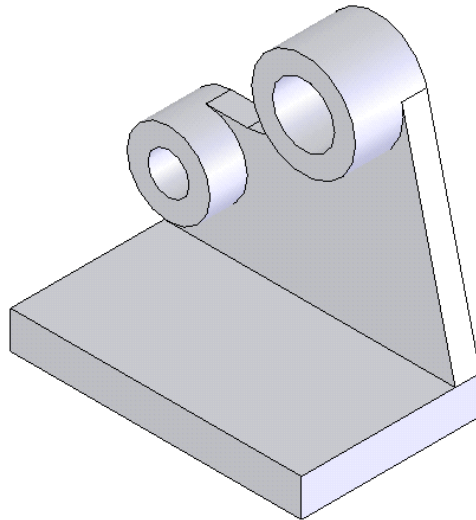

Figure 5-83 Model created after extruding the selected contour
8. Using the contour selection tool and the extrude tool create the other features by extruding the selected contours and then hide the sketch. The model created after extruding all the contours is shown in Figure 5-83.